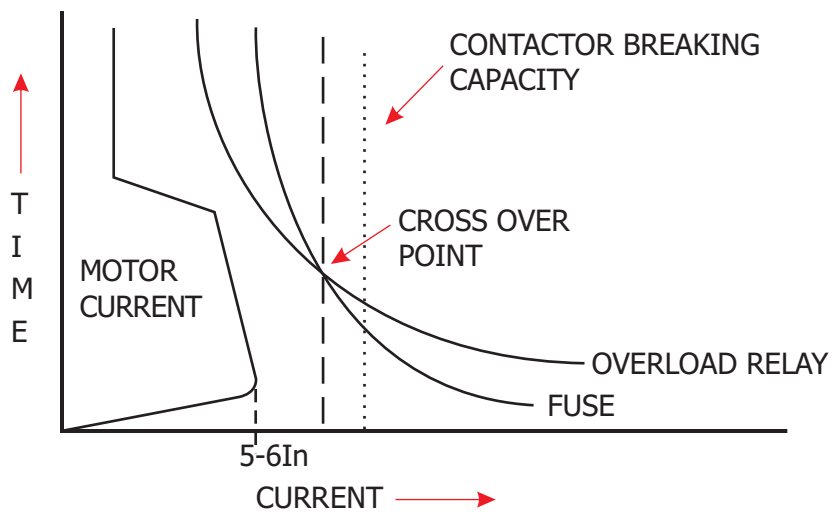

Fig. 3b
To understand various considerations for proper co-ordination, time-current characteristics of thermal overload relay, H.R.C. fuse, MCCB with only instantaneous release and MPCB are superimposed on motor starting characteristics in Fig. 3b, 4b and 5b. Intersection of characteristics of thermal overload relay and Fuse / MCCB / MPCB is termed as 'cross-over point' and corresponding current as 'cross-over current' I_{co} .
- Thermal overload relay of appropriate 'Trip Class' is selected. Time current characteristics of the relay should remain above motor starting characteristics as shown in Fig. 3b and 4b